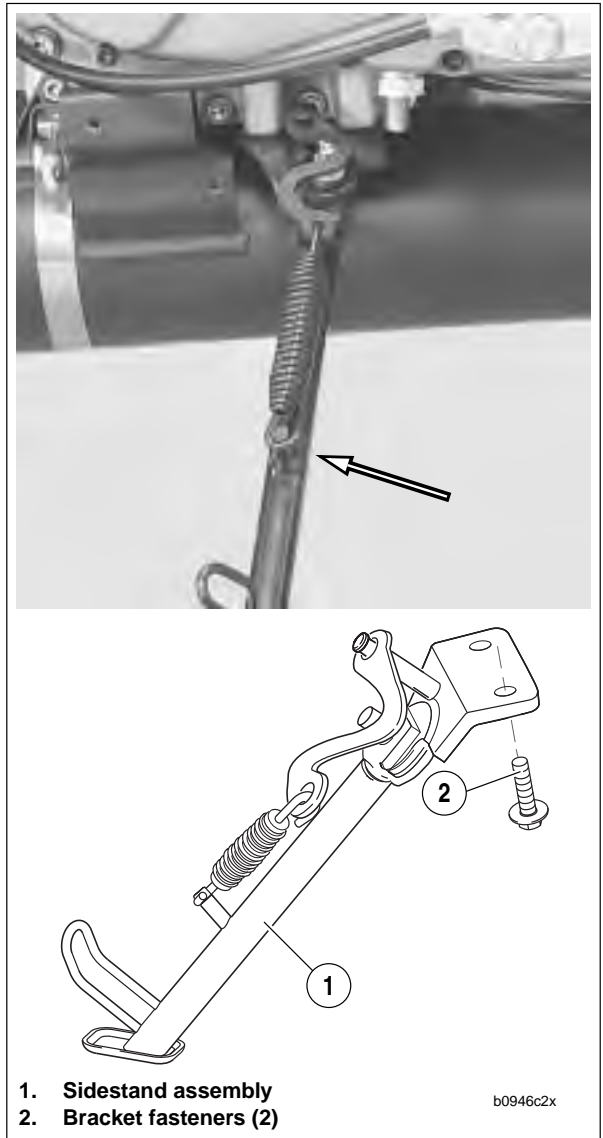

Figure 3-21. Sidestand Assembly (Extended)
- b. Slide clutch cable adjuster boot (2) up to access clutch adjuster.
30. See Figure 3-21. Remove two fasteners (2) and remove sidestand assembly.